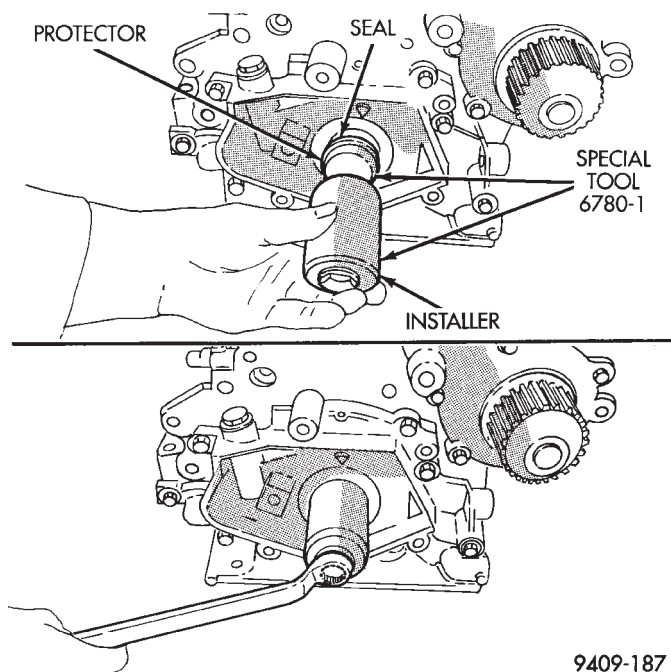
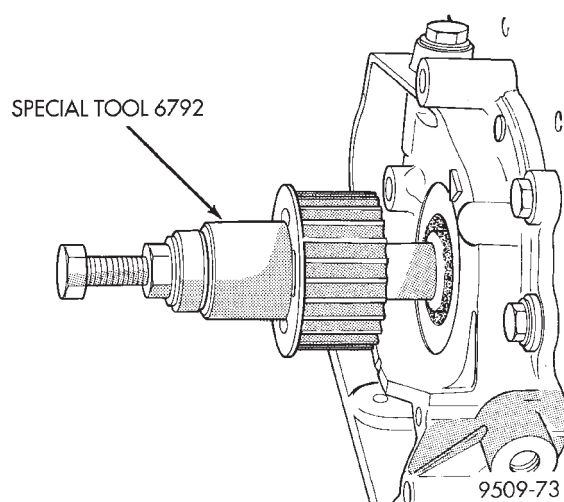

Fig. 71 Front Crankshaft Oil Seal—Installation
Fig. 72 Crankshaft Sprocket—Installation
- (1) Install new seal by using Tool 6780-1 (Fig. 71).
- (2) Place seal into opening with seal spring towards the inside of engine. Install seal until flush with cover.
- (3) Install crankshaft sprocket (Fig. 72). Using Special Tool 6792.